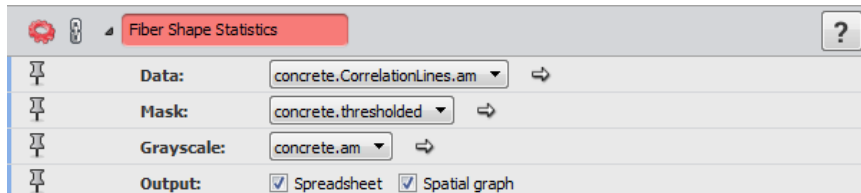

Figure 10.23: Parameter Settings of the *Fiber Shape Statistics* Module
3. Attach a *Fiber Shape Statistics* module to *concrete.CorrelationLines.am* and set the parameters as shown in Figure 10.23 and click **Apply**.